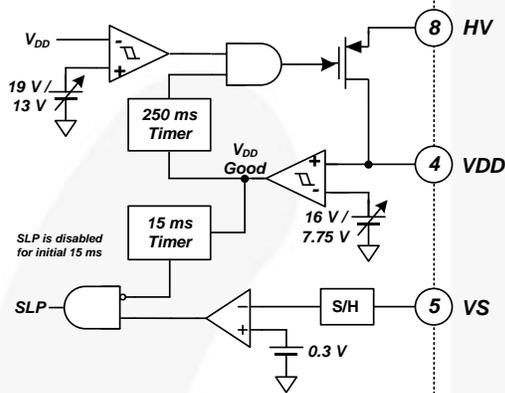
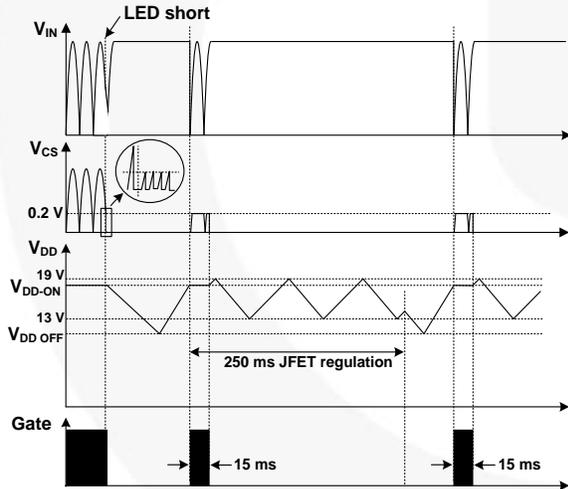

Figure 24. Internal SLP Block
Figure 25. Waveforms in Short-LED Condition
In case of a short-LED condition, the secondary diode is stressed by high current. When V_S voltage is lower than 0.3 V due to a short-LED condition, the cycle-by-cycle current limit level changes to 0.2 V from 1.0 V and SLP is triggered if the V_S voltage is less than 0.3 V for four (4) consecutive switching cycles. Figure 24 and Figure 25 show the SLP block and operational waveforms during LED-short condition. To set enough auto-restart time for system safety under protection conditions, V_{DD} is maintained between 13 V and 19 V, which is higher than UVLO, for 250 ms after V_{DD-ON} . SLP is disabled for an initial 15 ms to ensure successful startup in normal LED condition.